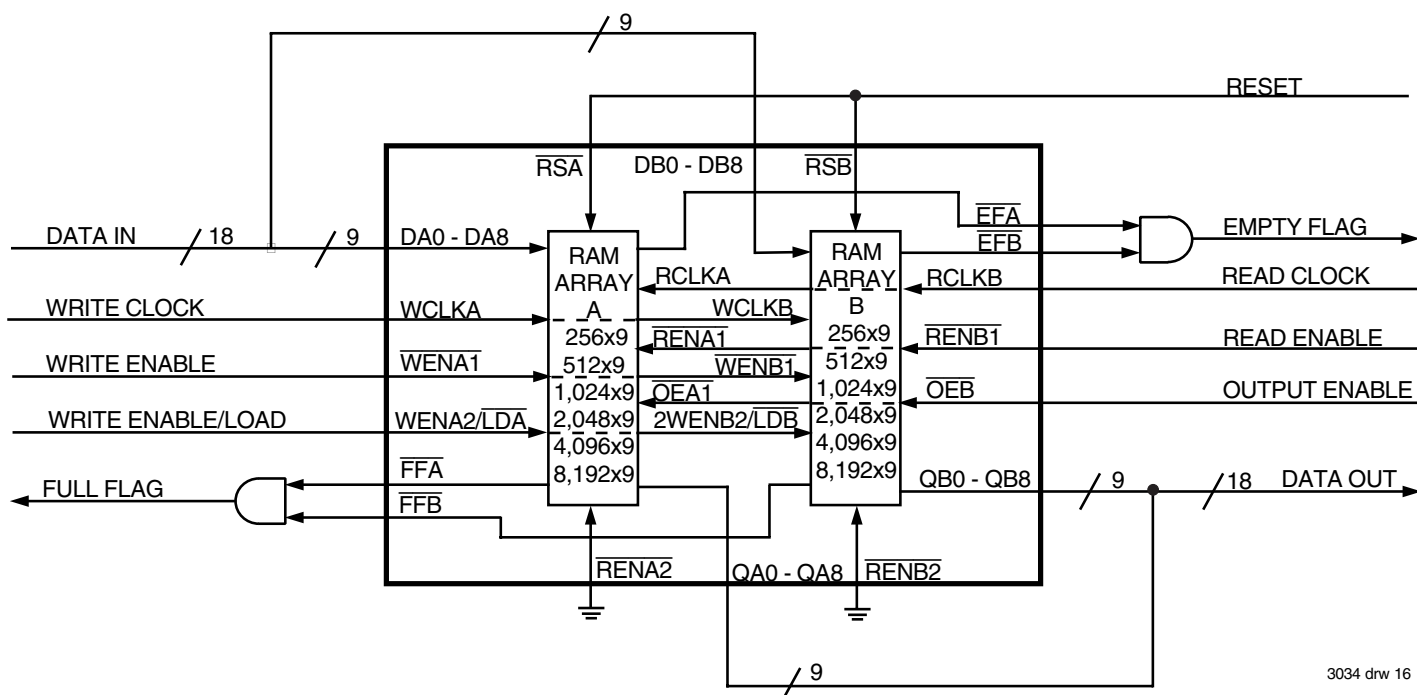

Figure 15. Block diagram of the two FIFOs contained in one IDT72801/72811/72821/72831/72841/72851 configured for an 18-bit width-expansion
**WIDTH EXPANSION CONFIGURATION** — Word width may be increased simply by connecting the corresponding input control signals of FIFOs A and B. A composite flag should be created for each of the endpoint status flags  $\overline{\text{EFA}}$  and  $\overline{\text{EFB}}$ , also  $\overline{\text{FFA}}$  and  $\overline{\text{FFB}}$ . The partial status flags  $\overline{\text{PAEA}}$ ,  $\overline{\text{PAFB}}$ ,  $\overline{\text{PAEA}}$  and  $\overline{\text{PAFB}}$  can be detected from any one device. Figure 15 demonstrates an 18-bit word width using the two FIFOs contained in one IDT72801/72811/72821/72831/72841/72851. Any word width can
When these devices are in a Width Expansion Configuration, the Read Enable 2 ( $\overline{\text{RENA2}}$  and  $\overline{\text{RENB2}}$ ) control inputs can be grounded (see Figure 15). In this configuration, the Write Enable 2/Load ( $\overline{\text{WENA2/LDA}}$ ,  $\overline{\text{WENB2/LDB}}$ ) pins are set LOW at Reset so that the pin operates as a control to load and read the programmable flag offsets.